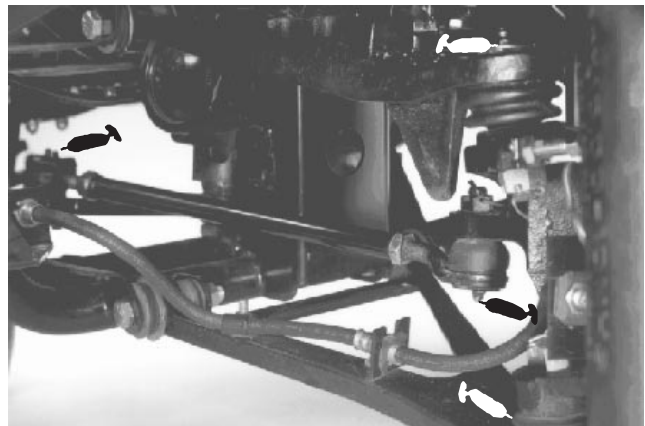
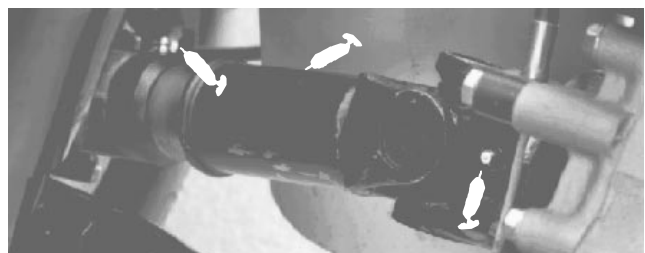

Figure 21
Figure 22
(Fig. 21–26)
The grease fitting locations and quantities are: Tie rod ends (4) (Fig. 21), Front ball joints (4) (Fig. 21), Rear drive shafts (18) (Fig. 22) Front pivot bushings (2) (Fig. 23); Pedal Pivots (4) (Fig. 24); Steering shaft (1) (Fig. 25) and Accelerator Arm (1) (Fig. 26).